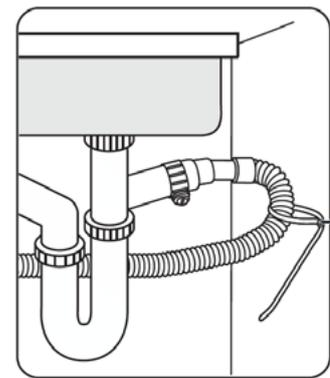

Figure 14
- Lastly, secure the drain hose to the sink wall using cable ties or other fastening materials (see Figure 14 below). Otherwise, the drain hose may bend at the end causing a drainage problem or excessive supply of water.